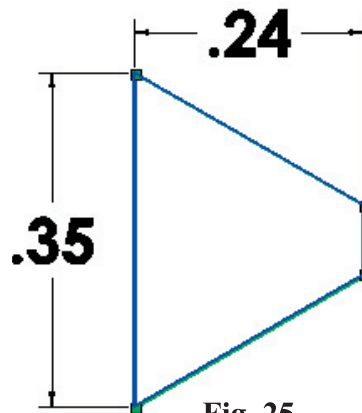

Fig. 25
Step 1. Click **Smart Dimension**  (S) on the Sketch toolbar.
Step 2. Dimension the left line **.35** and the top **.24** as shown in **Fig. 25**.